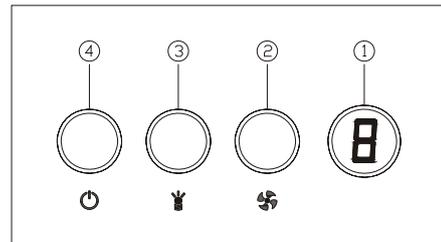

Fig.13
**Note:** Operate switches (Fig.13)